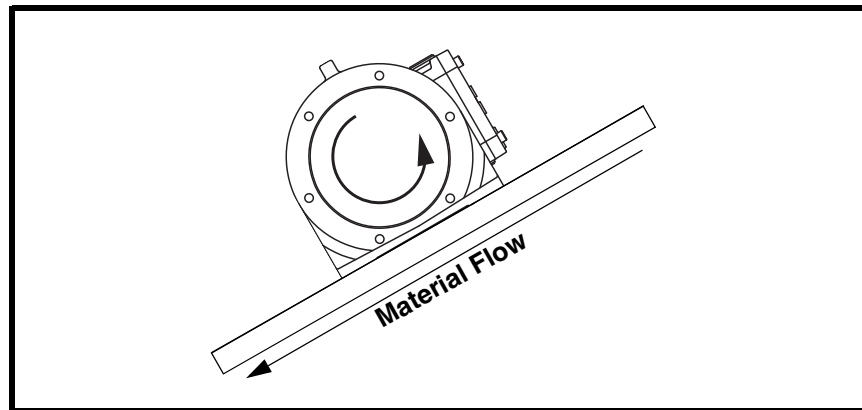

Figure 6. One-Vibrator Screen
3. Observe direction of screen vibrator rotation. If screen vibrator is not rotating in correct direction, **lock out/tag out energy source** and reverse rotation. To reverse rotation of three-phase vibrator, reverse any two of the three power supply wires. See Figure 6 or 7 for proper rotation.